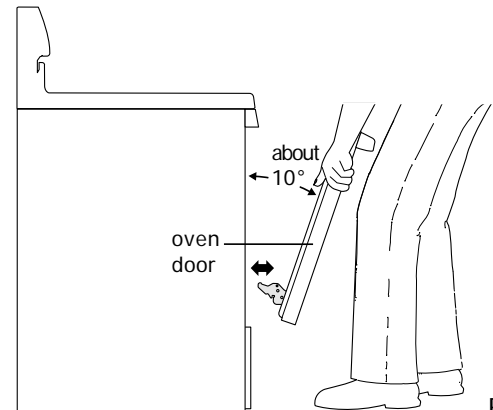
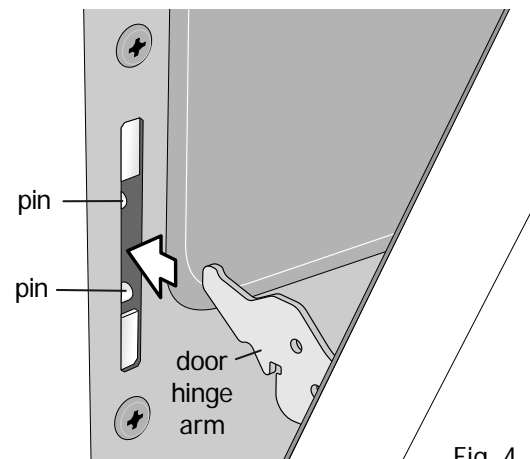

Fig. 3
Fig. 4
5. With the oven door in the broil stop position (Fig. 3), slightly lift and carefully pull the oven door away from the oven frame. To avoid finish damage, be careful not to allow the oven door hinges to contact the oven front frame.
2. Holding the oven door at the same angle as the removal position (See Fig. 3), carefully line up and insert both door hinge arms between the pins located on each side of the oven door frame (See Fig. 4).